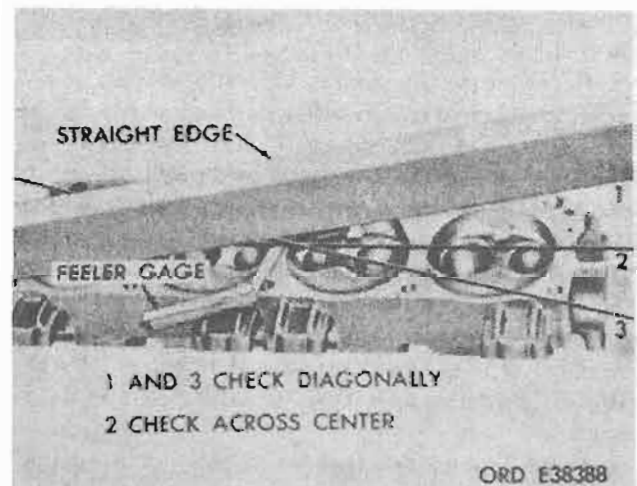

Figure 4-131. Cylinder head flatness—typical.
g. *Cylinder Head Flatness.* Check flatness of cylinder head gasket surface with a straightedge and feeler gage. Replace if warped beyond tolerance (table 4-3 and fig. 4-131).